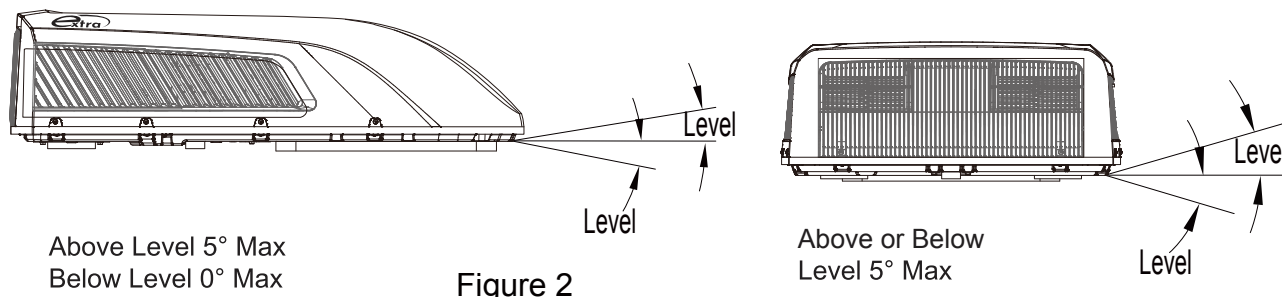

Figure 2
1. The roof top air conditioner must be mounted on a level plane from front to rear and side to side when the vehicle is parked on a level plane. Figure 2 shows maximum allowable degrees that the unit can be mounted above or below level.